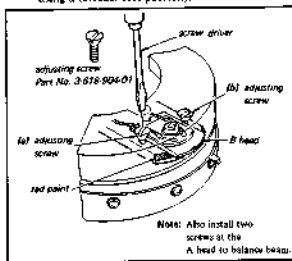

Fig. 4-5. Video head dihedral adjustment
This adjustment requires the use of the SONY alignment Tape and the four adjusting screws shown in Fig. 4-5. The adjusting screw has a tapered head which bears against the base of the head when turned clockwise, thus forcing the head to move laterally. The thread of this screw is different from that of any conventional screw.
- Position the B head so that the threaded adjusting-screw holes are accessible through the cutout in the upper drum. See Fig. 4-5.
- First, loosen the (a) adjusting screw about a quarter turn counterclockwise and tighten the (b) adjusting screw a quarter turn clockwise. See Fig. 4-5.